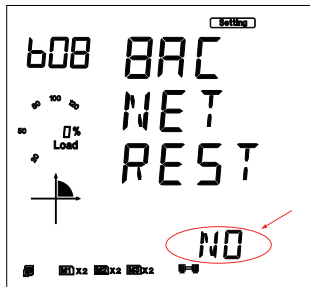

Fig 5-84
j). Set resetting mode in the eighth setting page. Select "RESET" to reset the module. Selecting "NO" will not reset the module. Press the "V/A" key to go to the setting page and the parameter pointed out in Figure 5-84 will flash. Press the "P" or "E" key to select the configuration mode. Press the "V/A" key to accept.